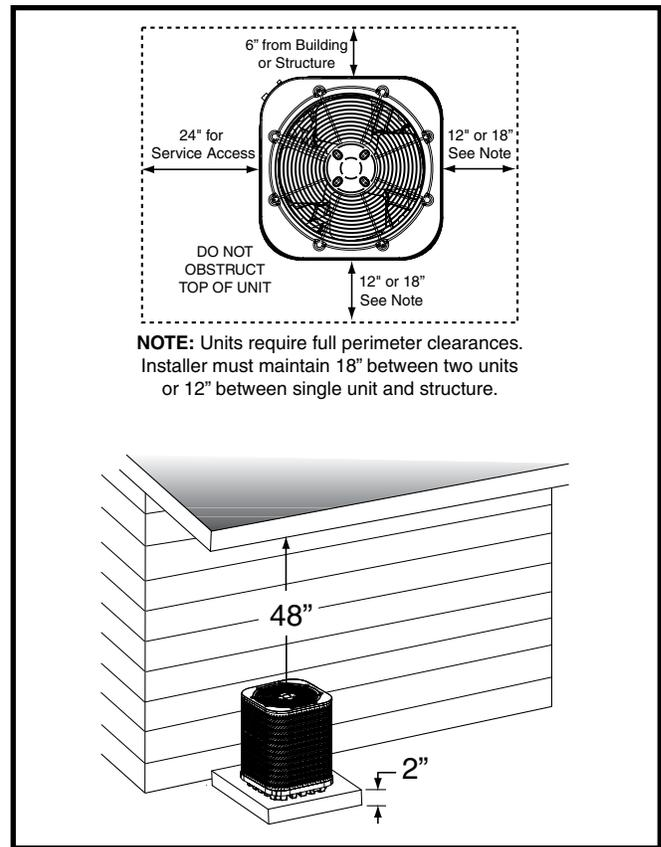

Figure 1. Clearance Requirements
- Sufficient clearance for unobstructed airflow through the outdoor coil must be maintained in order to achieve rated performance. See Figure 1 for minimum clearances to obstructions.
- Overhead obstructions (Figure 1), poorly ventilated areas, and areas subject to accumulation of debris should be avoided.
- Clearances must be in accordance with those shown in Figure 1.